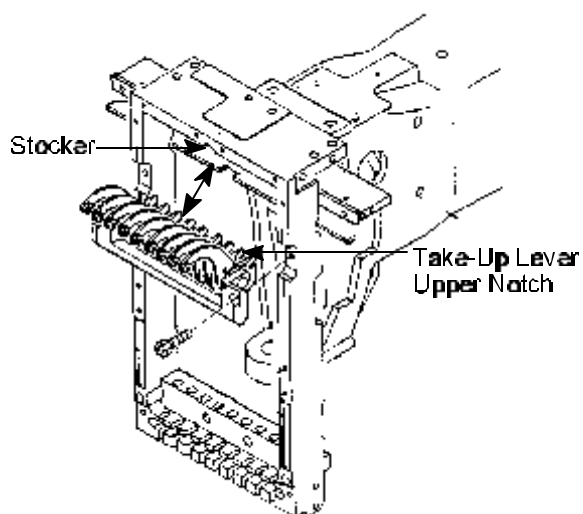

Figure 5
11. **Align** Take-Up Lever Upper Notches to Stocker. See *Figure 5*.